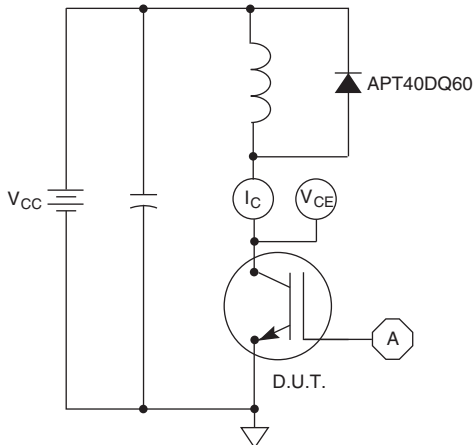

Figure 21, Inductive Switching Test Circuit
- ① Repetitive Rating: Pulse width limited by maximum junction temperature.
- ② For Combi devices,  $I_{ces}$  includes both IGBT and diode leakages
- ③ See MIL-STD-750 Method 3471.
- ④  $E_{on1}$  is the clamped inductive turn-on energy of the IGBT only, without the effect of a commutating diode reverse recovery current adding to the IGBT turn-on loss. Tested in inductive switching test circuit shown in figure 21, but with a Silicon Carbide diode.
- ⑤  $E_{on2}$  is the clamped inductive turn-on energy that includes a commutating diode reverse recovery current in the IGBT turn-on switching loss. (See Figures 21, 22.)
- ⑥  $E_{off}$  is the clamped inductive turn-off energy measured in accordance with JEDEC standard JESD24-1. (See Figures 21, 23.)
- ⑦  $R_G$  is external gate resistance, not including  $R_{Gint}$  nor gate driver impedance. (MIC4452)